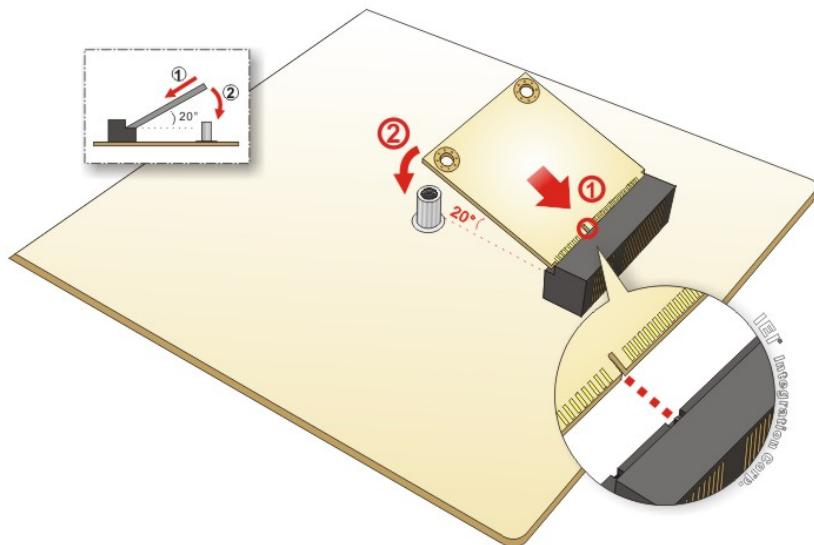

Figure 4-6: Inserting the iRIS-1010 Module into the Slot at an Angle
Step 3: Insert into the slot at an angle. Line up the notch on the module with the notch on the slot. Slide the iRIS-1010 module into the slot at an angle of about 20° (Figure 4-6).